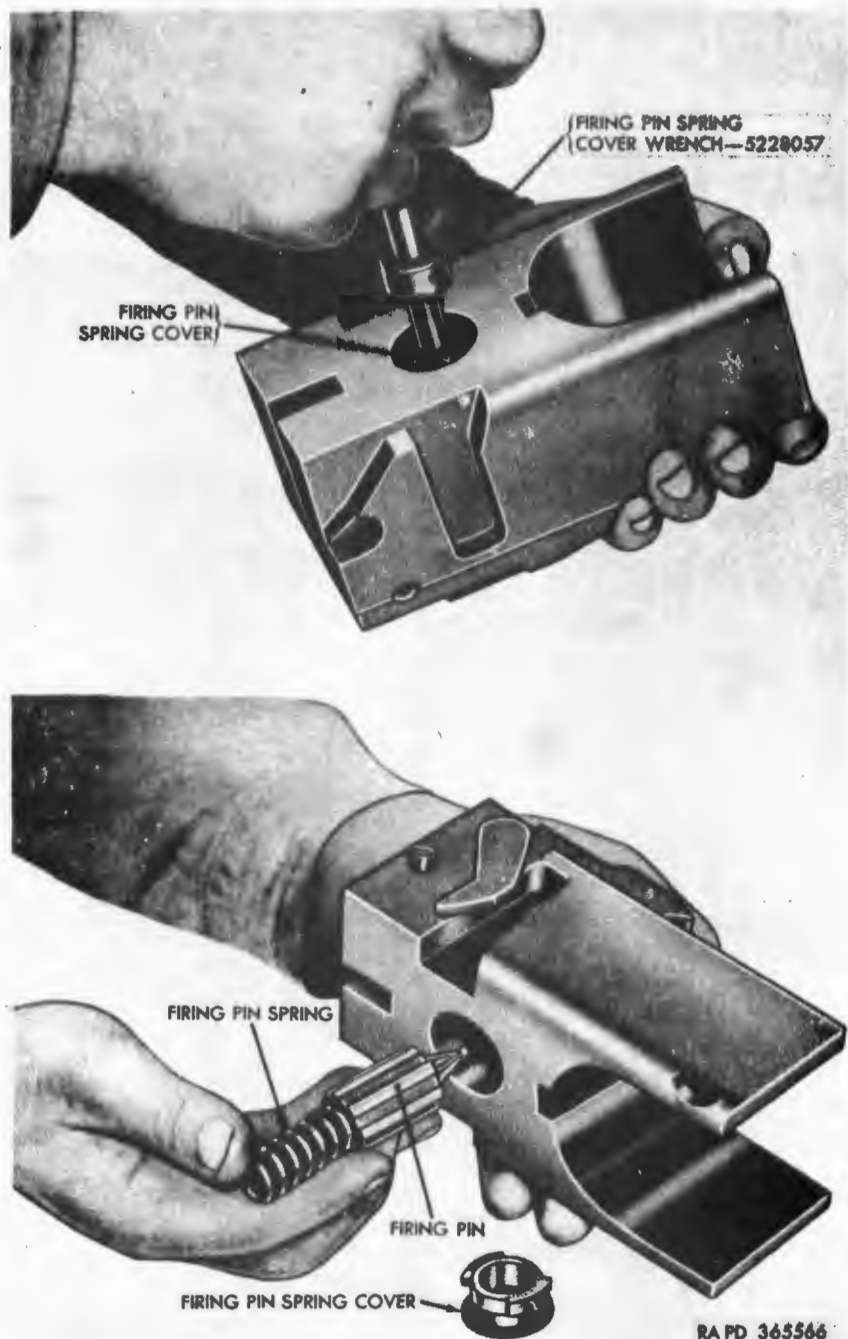

Figure 306. Removing breechblock firing pin spring cover and firing pin.
- (a) Using firing pin spring cover wrench 5228057 (fig. 306), remove breechblock firing pin spring cover by pressing wrench inward and turning to 90° in either direction.
- (b) Lift out firing pin spring and firing pin (fig. 306) from breechblock.
breechblock using firing pin spring cover wrench 5228057 (fig. 306) and turn cover 90° to match outer point of diamond on cover with arrow on rear face of breechblock.